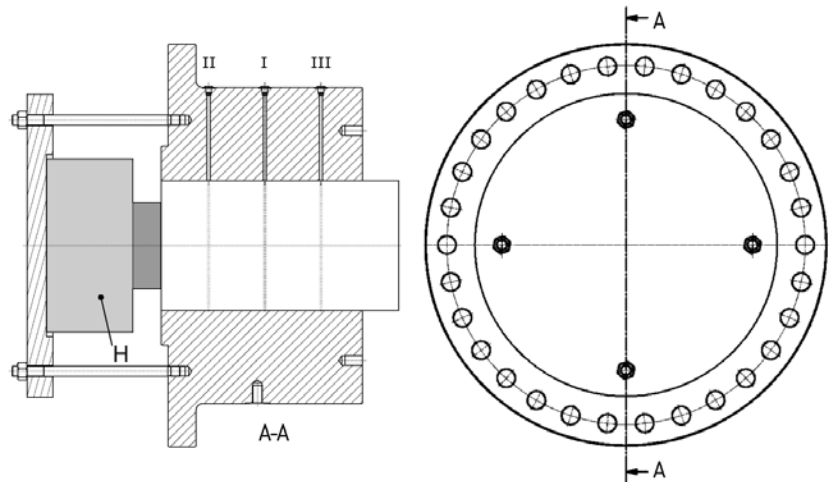

Fig. 68: Disassembly utilities
6. Fit the disassembly utilities and the hydraulic cylinder “H” according to Fig. 68.
Bleed the first oil pump and connection line and connect it to the centre (Fig. 68/I) oil duct.
11. Bleed the second oil pump and connection line and connect it to the next (Fig. 68/II) oil duct.
12. Bleed the third oil pump and connection line and connect it to the next (Fig. 68/III) oil duct.